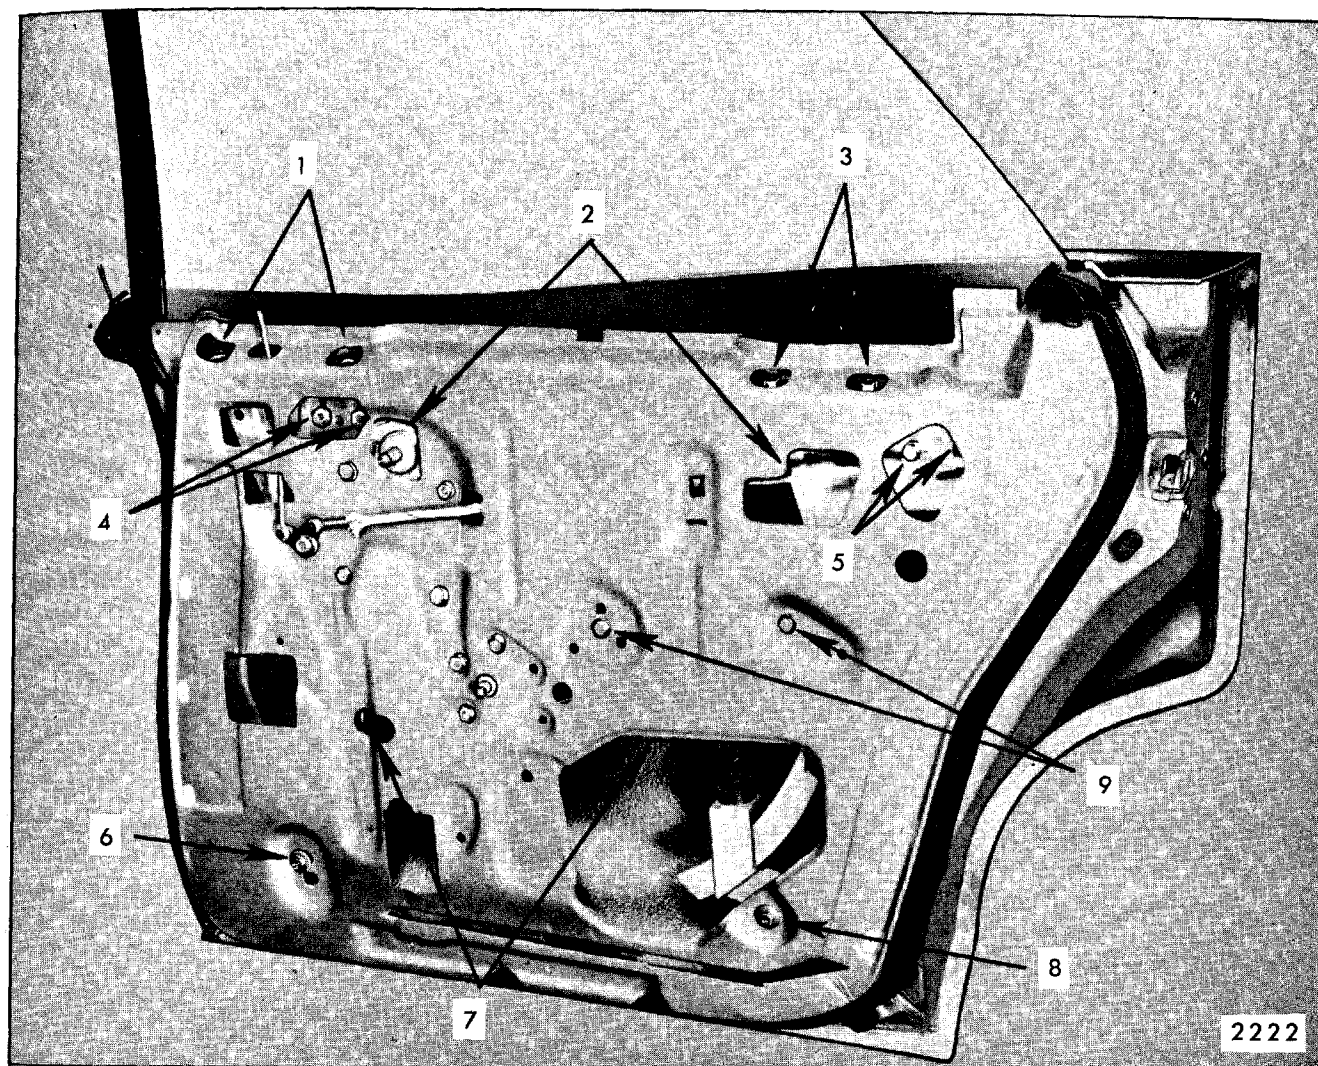
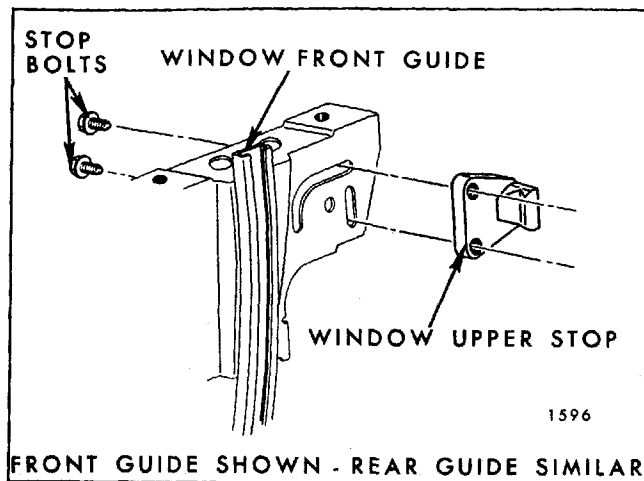

Fig. 7-136—Rear Door Hardware Attachment "B-C 39 and C-69" Except 68069-68169 Styles
Fig. 7-137—Window Upper Stop Attachment
2. Loosen front and rear upper stop attaching bolts "D & E" (Fig. 7-136) and rotate stops into vertical position (Fig. 7-137).
3. Loosen front and rear guide upper attaching bolts "A & C" and lower adjusting stud nuts "F & H" (Fig. 7-136).
4. Operate window to required position as shown in Figure 7-136 and remove rear lower sash channel cam attaching screws at "B" or "G". (Window almost full-down for manual styles, and almost full-up for electric styles).
1. To adjust the top of the door glass in-or-out in relation to the side roof rail weatherstrip, loosen the front and rear guide lower adjusting stud nuts "F & H" (Fig. 7-136). Adjust studs in-or-out as required and tighten stud nuts.
stud nuts "F & H" (Fig. 7-136). Position window as desired and tighten guide attachments.
3. To correct a window that is rotated (cocked) in the opening, loosen inner panel cam attaching bolts "I" (Fig. 7-136). Adjust front of cam up-or-down as required and tighten bolts.
4. To adjust front or rear edge of glass in-or-out, loosen front or rear guide upper attaching bolts "A & C" (Fig. 7-136). Adjust guide in-or-out as required and tighten bolts.
5. To obtain proper up-travel of window for good contact with side roof rail weatherstrip, loosen front and rear upper stop attaching bolts "D & E" (Fig. 7-136). Operate window to desired up position. Then, tighten stop bolts while exerting slight downward force on stops.